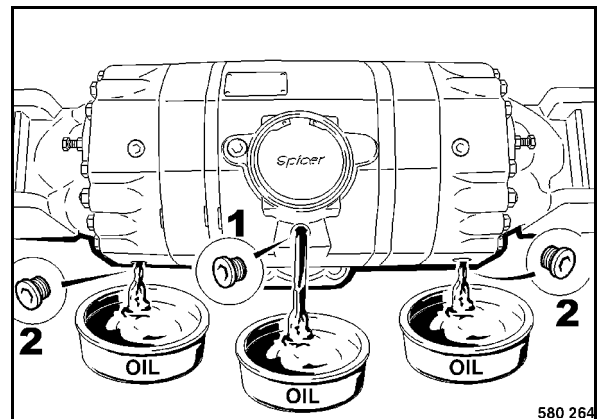

Fig. 165
- Clean and unscrew all level inspection and drain plugs (Fig. 165).